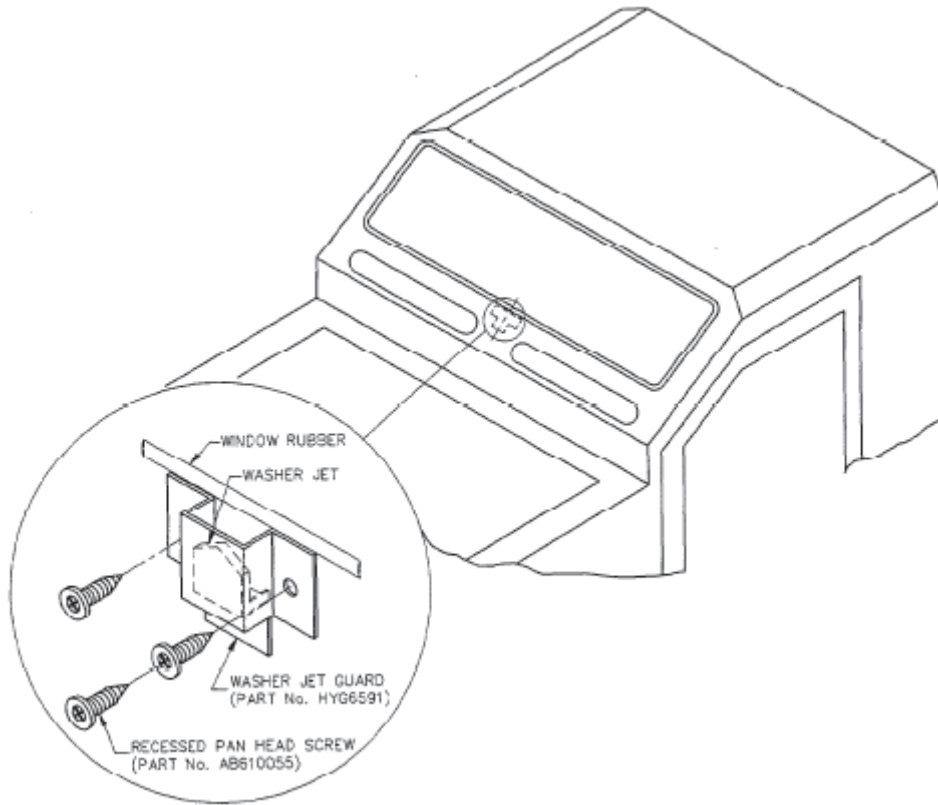

Figure 1 Installation of the Windscreen Nozzle Guard
- a. Position the windscreen washer guard (Table 1, Item 1) on the windscreen fascia, symmetrically about the washer nozzle, ensuring the top of the guard is above the top of the nozzle jets, as shown in Figure 1.